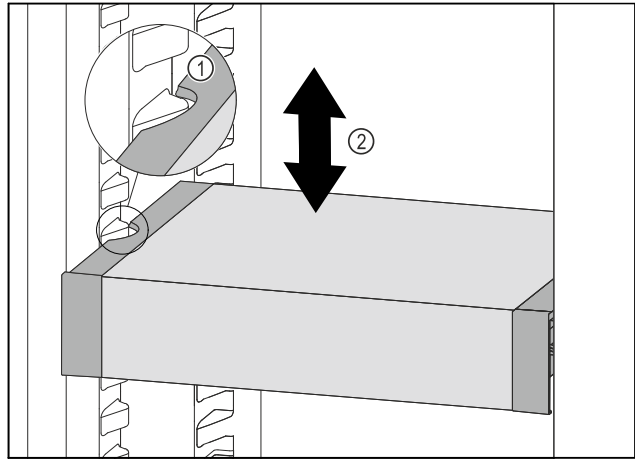

Fig. 198
- ▶ Pull VarioSafe forwards until the recesses in the side of the VarioSafe are at the level of the support rib in the refrigerator compartment. Fig. 198 (1)
- ▶ Move VarioSafe up or down in the refrigerator compartment until the desired height is reached. Fig. 198 (2)